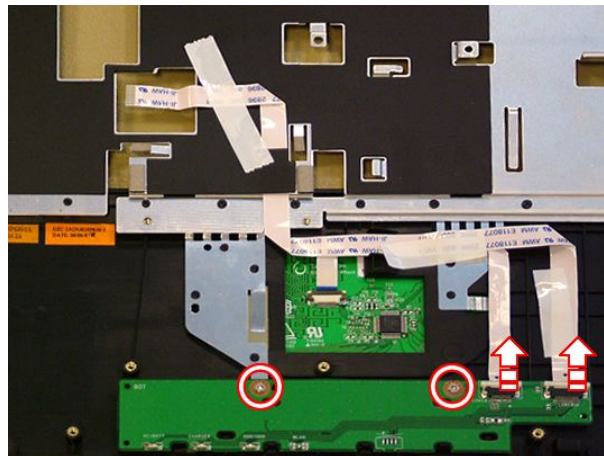

Fig. 22 Location of touchpad buttons board.
2. Disconnect the 2 flat cables and separate the part from the top cover (see Fig. 22).